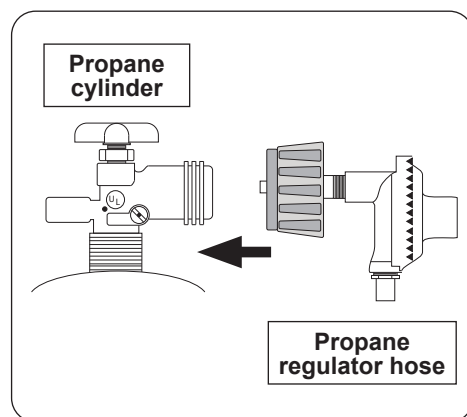

Fig. 6-2 Attach regulator hose to tank
4. Connect the other end of the regulator hose assembly to the propane tank (see Fig. 6-2).